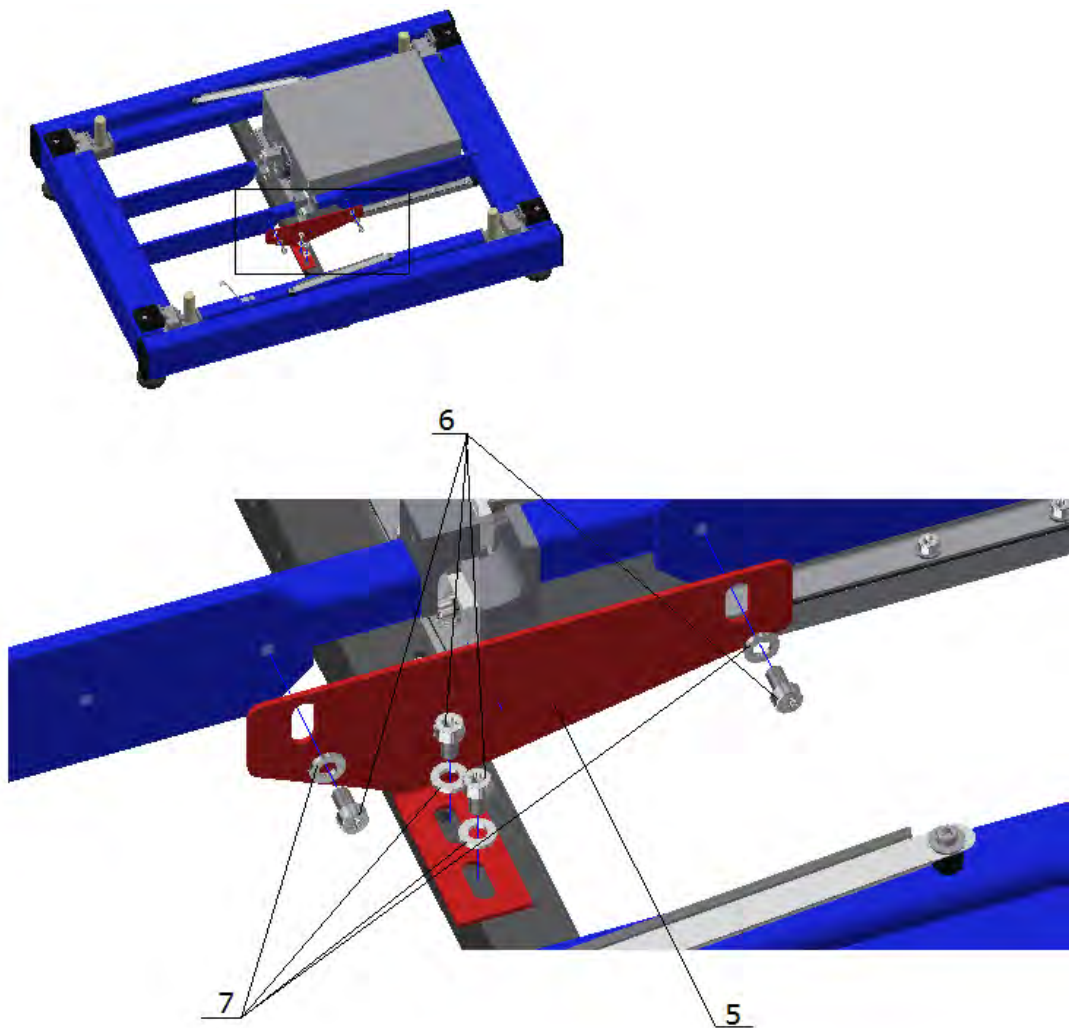

Fig.4
4. Disassembly transport lock (5) by undoing screws (6) and removing fixing washers (7). (Fig.4)